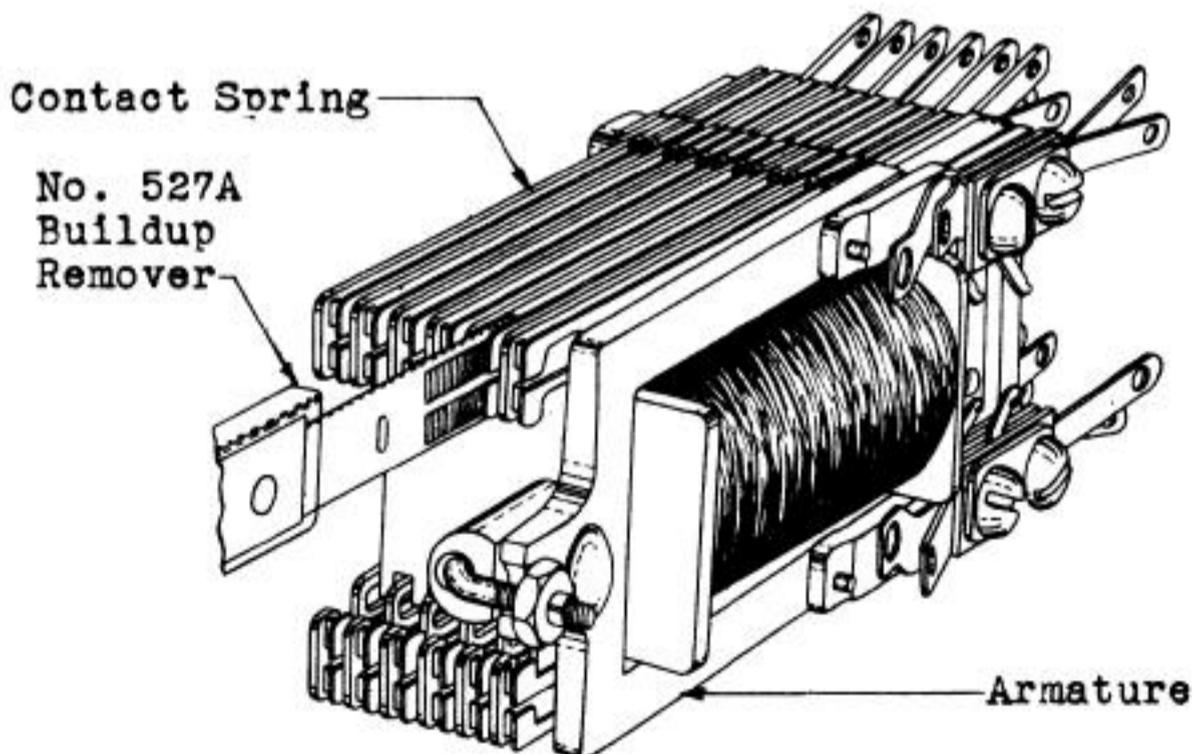

Fig. 18 - Method of Removing Buildups from U & Y Type Relay Contacts
5.11 Removing Buildups - Place the proper blade of the No. 527A buildup remover over the contact from which the buildup is to be removed. Exercise care in inserting the blade of the tool between the contacts to avoid applying pressure on the contacts which may force the contact off the spring. Hold the buildup remover so that the blade is approximately parallel to the center line of the spring as shown in Fig. 18 except in the case of the bifurcated springs on 245, 254 type relays. In